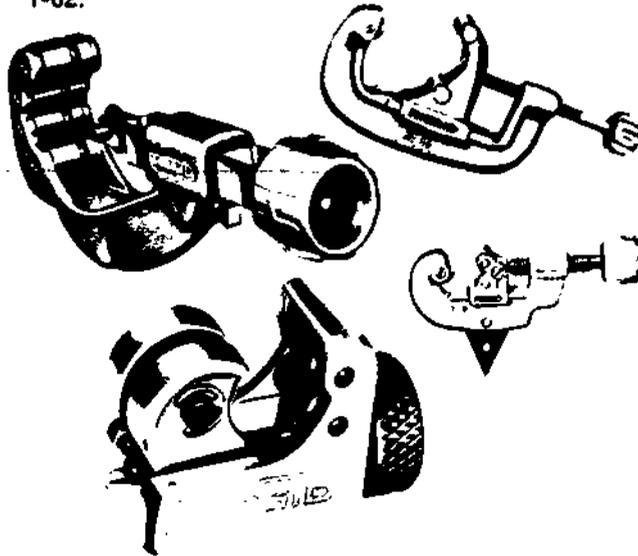

Figure 1-62. Tubing Cutters
d) Four types of tubing cutters are shown in Figure 1-62.